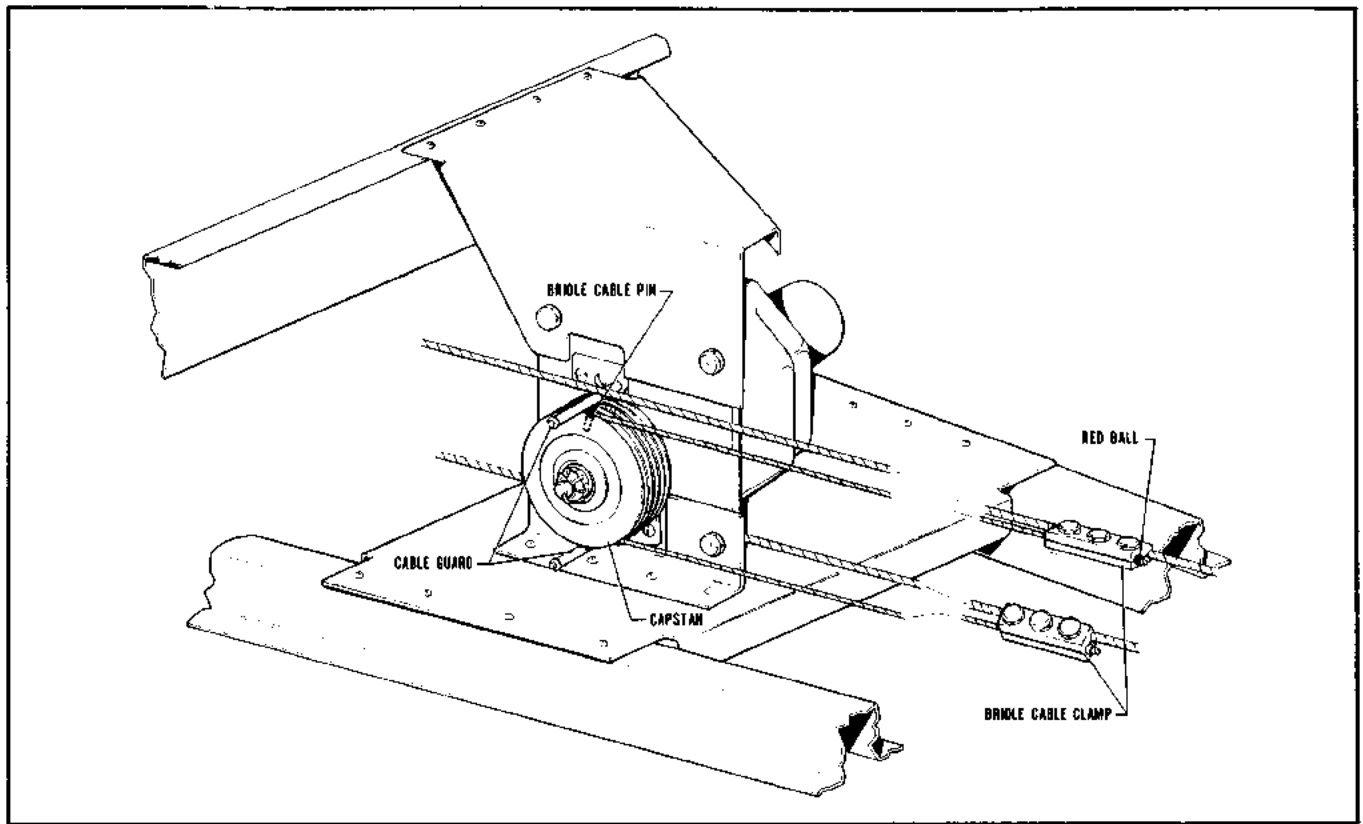

Figure 3-17. Pitch Servo Installation, PA-23-250
### 3-22. INSTALLATION OF PITCH SERVO. (PA-23-250 Six Place) F Model. (Refer to Figure 3-17.)
- e. REFER TO FIGURE 3-9 AND CHECK THAT THE CONTROL CABLE TENSION (Z) IS ADJUSTED TO  $35 \pm 4$  POUNDS PRIOR TO ATTACHING THE BRIDLE CABLE CLAMPS. Ascertain area on cable where clamp attaches is clean, dry and free of all lubricants and anti-corrosive additives. Attach the bridle cable to the stabilator control cables. The bridle cable is drawn to the stabilator control cables and attached with clamps at the previously painted locations. The end of the bridle cable with the red ball is attached to the left control cable. (Refer to Figure 3-17.) (Should the stabilator cables not be painted, position the control wheel full forward and with the servo disengaged, align the bridle cable pin installed in the capstan as shown in Figure 3-17.) Adjust the bridle cable clamps so that the bridle cable tension (Y) as shown in Figure 3-9 is  $15 \pm 2$  pounds. Check the control cable tension forward of the bridle cable clamps and adjust, if necessary to obtain  $35 \pm 4$  pounds. If the control cables require adjustment, it will be necessary to readjust the bridle cable tension to  $15 \pm 2$  pounds. Torque the bridle cable clamp bolts to  $55 \pm 5$  inch-lbs.